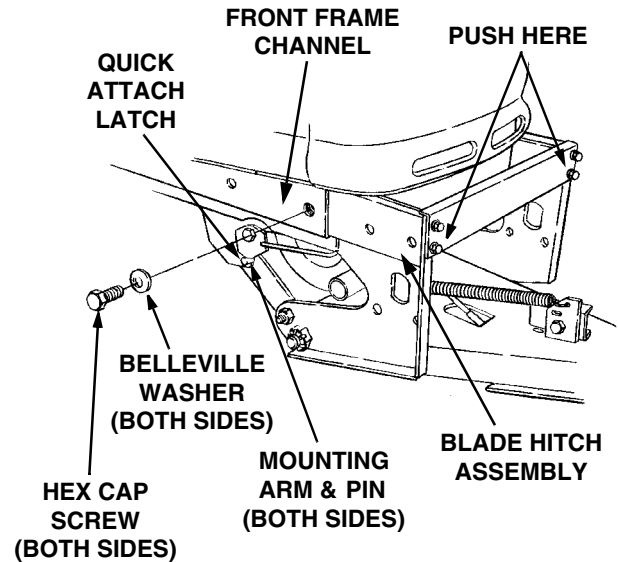

Figure 12
2. Pushing evenly on both sides as indicated in Figure 12, slide the blade hitch assembly into the tractor frame channels.
The blade hitch assembly is fully inserted when the pins of the hitch assembly mounting arms are locked in the quick attach latch on each side of the tractor frame. See Figure 12.
3. Using one hex cap screw (10) and belleville washer (11) per side, secure the blade hitch assembly to the tractor frame channels as shown in Figure 12.
2. Slide the blade hitch assembly into the tractor frame channels. Refer to Figure 12.
3. Secure the blade hitch assembly to the tractor frame channels using the hex cap screws (10) and belleville washers (11). Refer to Figure 12.